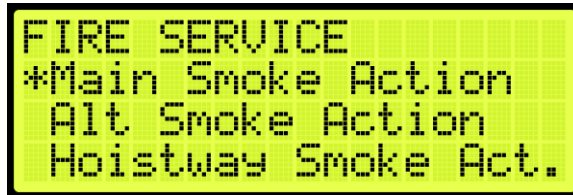

Figure 524: FIRE SERVICE Menu – Main Smoke Action
2. From the FIRE SERVICE menu, scroll and select Main Smoke Action (See Figure 524).